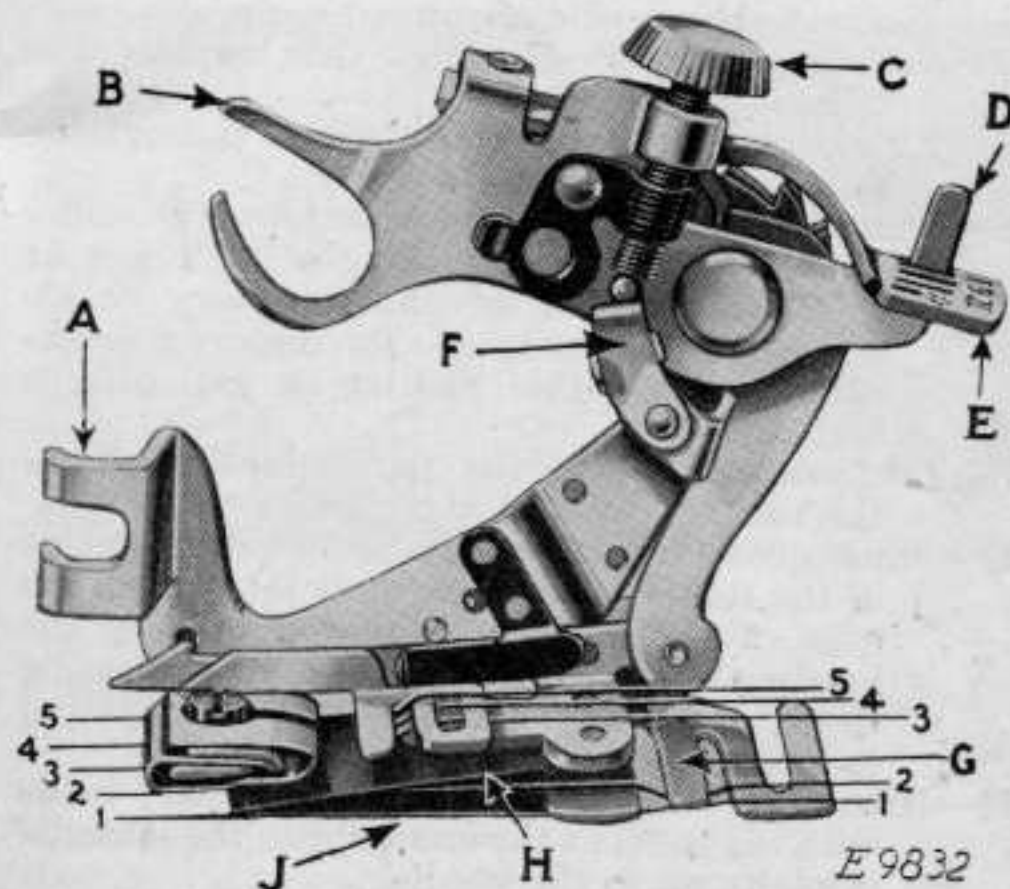
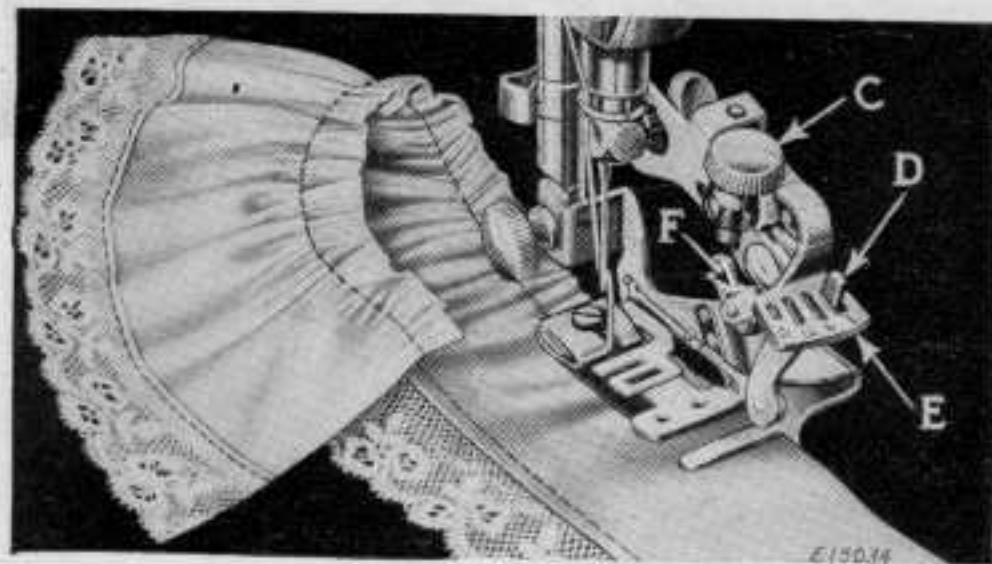
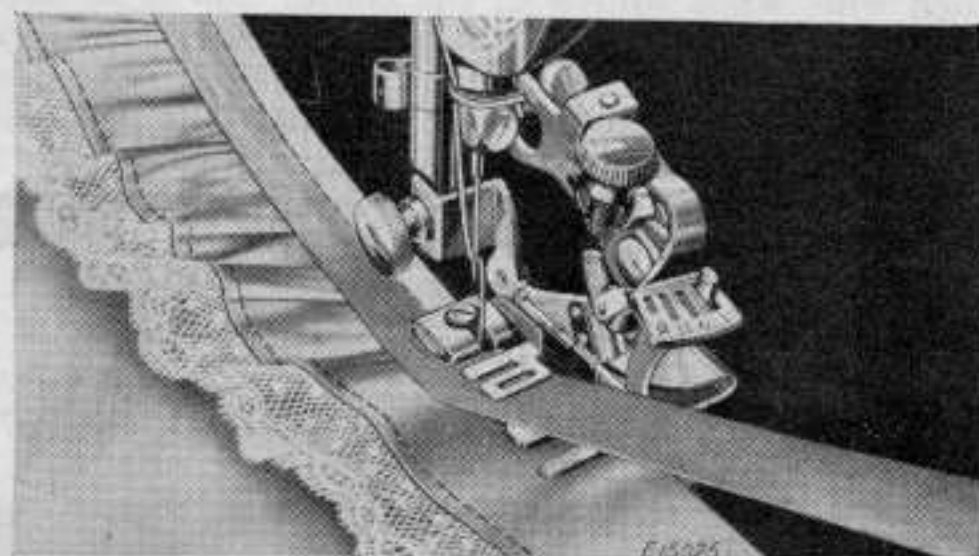
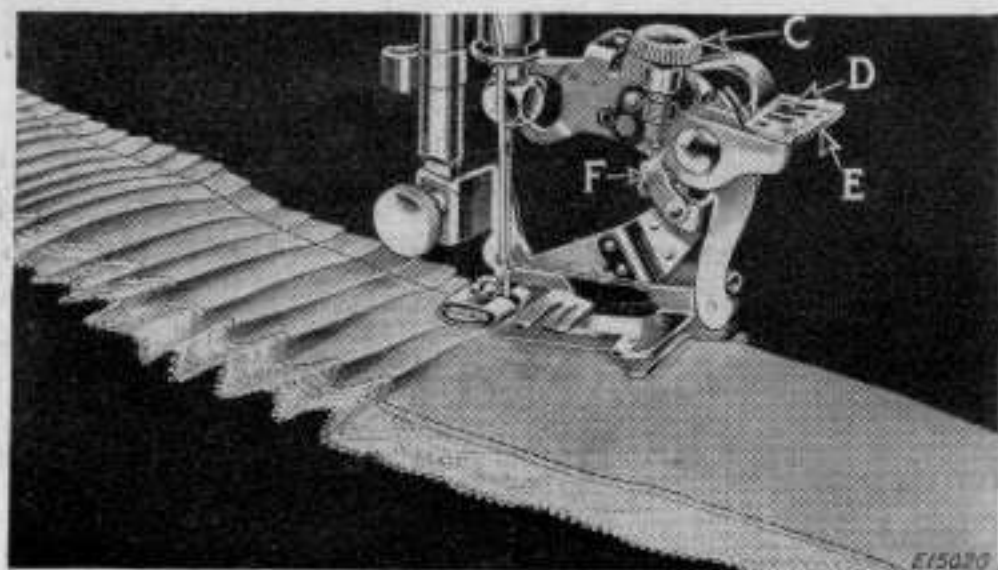

FIG. 52. THE RUFFLER AND ITS PARTS
FIG. 53
FIG. 55
FIG. 57
Lines 1, 2, 3, 4 and 5 shown in Fig. 52 indicate where the material is to be placed for various operations as follows:
Refer to Fig. 52 when inserting the material in the ruffler.
(SEE REFERENCES IN FIG. 52)
Raise the needle bar to its highest position and remove the presser foot. Attach the ruffler foot (A, Fig. 52) to the presser bar by means of the thumb screw, at the same time placing the fork arm (B, Fig. 52) astride the needle clamp as shown in Fig. 53.
The adjusting finger (F, Fig. 53) is not intended for gathering and should be moved forward or away from the needle, as shown in Fig. 53.
Raise the adjusting lever (E, Fig. 53) and move it to the left so that the projection (D, Fig. 53) will enter the slot marked "1" in the adjusting lever (E) when the lever is released. The ruffling blade will then move forward and back once at every stitch. Insert the material to be ruffled between the two blue blades, following the line 2 in Fig. 52. Draw the material slightly back of the needle, lower the presser bar and commence to sew.
To make fine gathering, shorten the stroke of the ruffling blade by turning the adjusting screw (C, Fig. 53) upward; also shorten the stitch. To make full gathering, lengthen the stroke of the ruffling blade by turning the adjusting screw (C) downward; also lengthen the stitch. By varying these adjustments, many pleasing varieties of work can be accomplished.
2, in Fig. 52. Place the garment to which the ruffle is to be attached, under the separator blade, following the line 1, in Fig. 52. Proceed the same as for gathering.
Insert the material to be ruffled between the two blue blades, following the line 2, in Fig. 52. Place the garment to which the ruffle is to be attached, under the separator blade, following the line 1, in Fig. 52. Place the material for the facing over the upper blue blade, as shown in Fig. 55, following the line 3, in Fig. 52. The facing may be straight or bias material. If the facing is to be on the right side of the garment, place the garment and the
Insert the material to be ruffled between the two blue blades, following the line 2, in Fig. 52. This
The material for piping must measure about $\frac{1}{4}$ inch wide when folded in the center and is usually cut on the bias. Place the piping material in the ruffler, following the line 4, in Fig. 52, with the folded edge of the piping to the right. The material to which the piping and ruffling are to be sewn should be folded on the edge and inserted in the ruffler, following the line 5, in Fig. 52.
Raise the adjusting lever (E, Fig. 57) and move it to the right so that the projection (D, Fig. 57)
will enter the slot marked "6" in the adjusting lever when the lever is released. The ruffling blade will then move forward and back once at every six stitches. To adjust the ruffling blade to make a plait once at every twelve stitches, place the adjusting lever (E, Fig. 57) so that the projection (D) enters the slot marked "12" in the adjusting lever. Insert the material to be plaited between the two blue blades, following the line (2, Fig. 52). The size or width of plaits is regulated by the adjusting screw
(C, Fig. 57) and the adjusting finger (F, Fig. 57). To make a wider plait, move the adjusting finger (F) back or toward the needle and turn the adjusting screw (C) downward. To make a smaller plait, turn the adjusting screw (C) upward. The distance between plaits is regulated by the length of stitch.